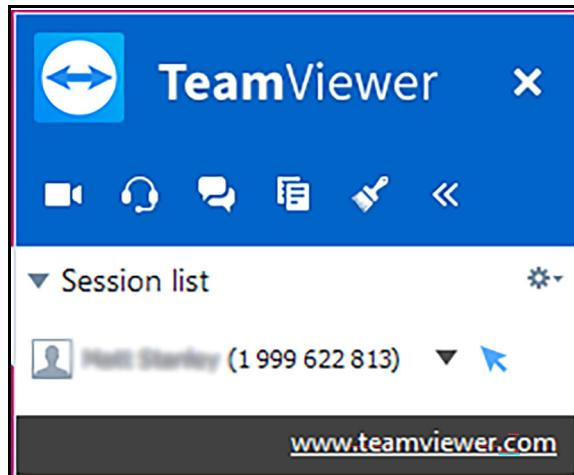

Figure 8-8. TeamViewer Connected to Instrument
7. When Alamar Technical Support has connected to your instrument, the window shown in Figure 8-8 will be displayed in the bottom right corner of the instrument touchscreen.